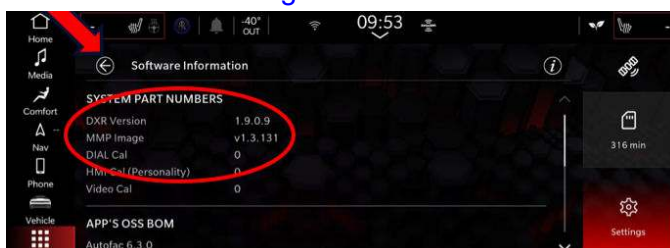

Fig. 6
9. Check if the software version is above 1.4.160 Fig. 6.